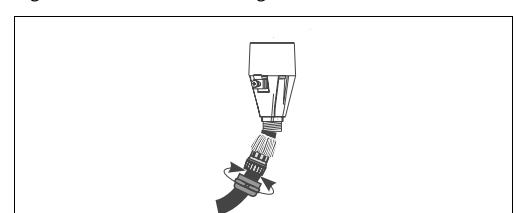

Fig. 25: Pg armoured thread tightening
6. Pull the cable through until the Pg armoured thread can grasp the cable insulation. Tighten the Pg armoured thread (Fig. 25).